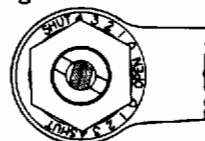

Fig. 52
Adjustment is obtained by varying the size of a by pass within the instrument by turning the adjusting pin (6). When the arrow on the end of the pin points to "open" the resistance is at a minimum. At "O" the resistance begins to increase and reaches its maximum at "4"—See Fig. 52.